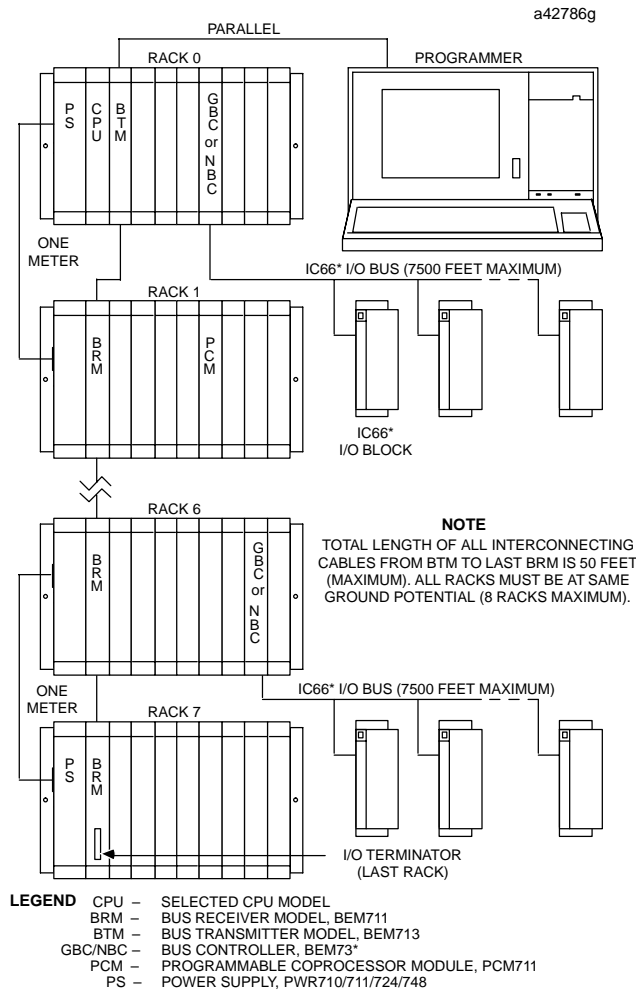

Figure 1. Typical PLC System Configuration
- Install in slot 1 of rack 0. (See Figure 1)
For a parallel interface (MS-DOS programmer only) connect the programmer to the top port connector on the Bus Transmitter Module (IC697BEM713) as shown in Figure 1. Consult Reference 2 for a description of programming functions.